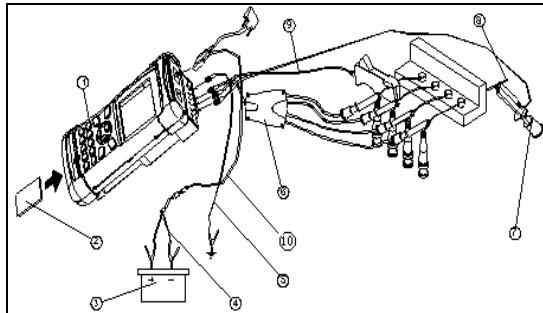

Fig.4-09
**CONNECTION 4:** Connection for secondary ignition waveform test of 4 cylinders is as shown in Fig.4-09.